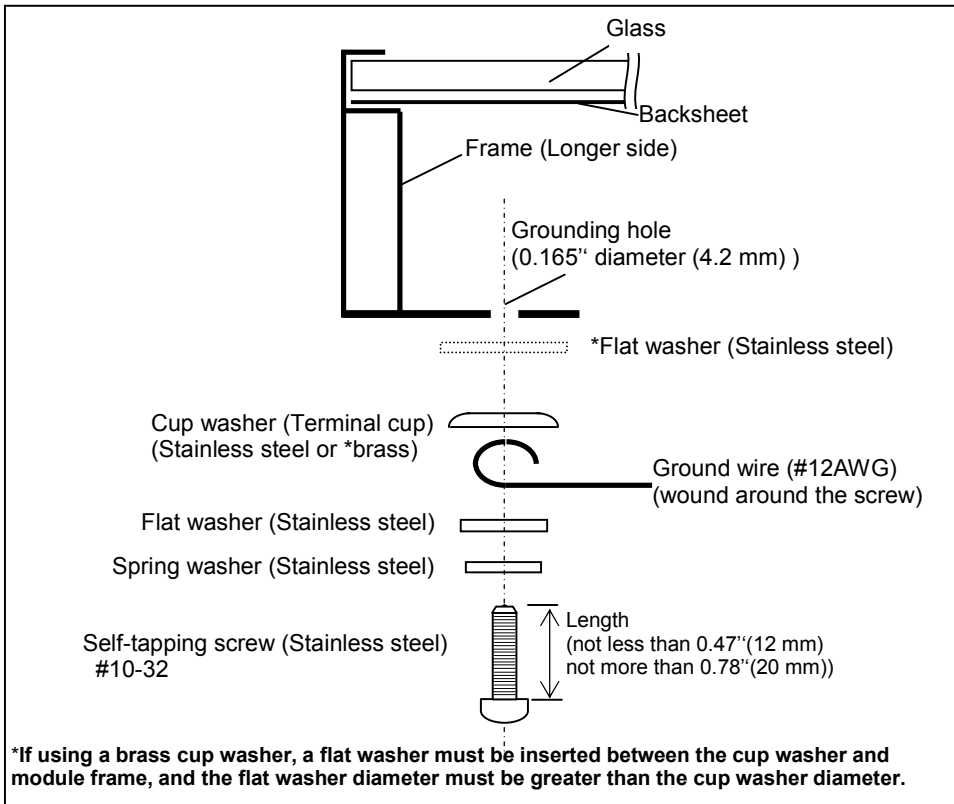

Figure 3.2 (Method 1)
- All the washers illustrated in Figures 3.2 and 3.3 are required as part of the grounding connection.
>Wire connection using cup washers (see Figures 3.2 and 3.3)